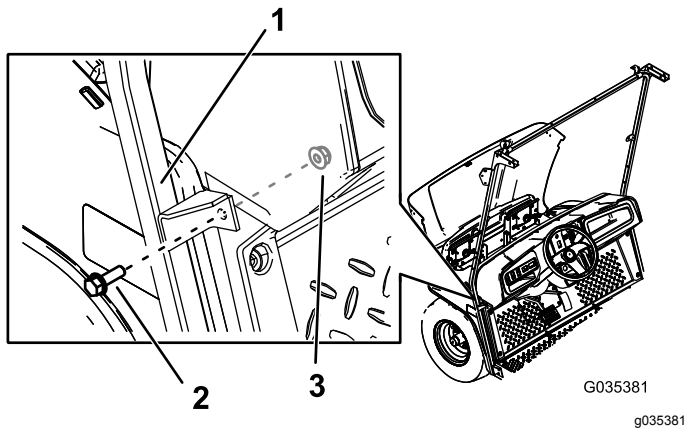

Figure 5
- Secure the middle bracket of the windshield support to the machine using 2 hex-flange bolts (5/16 x 1 inch) and 2 nuts (5/16 inch) in the holes you drilled (Figure 5).